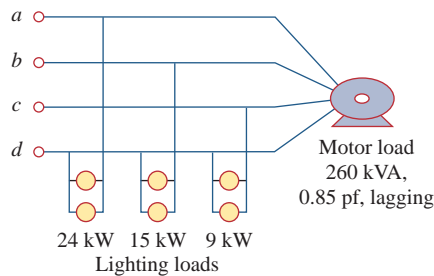

Figure 12.72
- *12.67** As shown in Fig. 12.72, a three-phase four-wire line with a phase voltage of 120 V rms and positive phase sequence supplies a balanced motor load at 260 kVA at 0.85 pf lagging. The motor load is connected to the three main lines marked a , b , and c . In addition, incandescent lamps (unity pf) are connected as follows: 24 kW from line c to the neutral, 15 kW from line b to the neutral, and 9 kW from line c to the neutral.